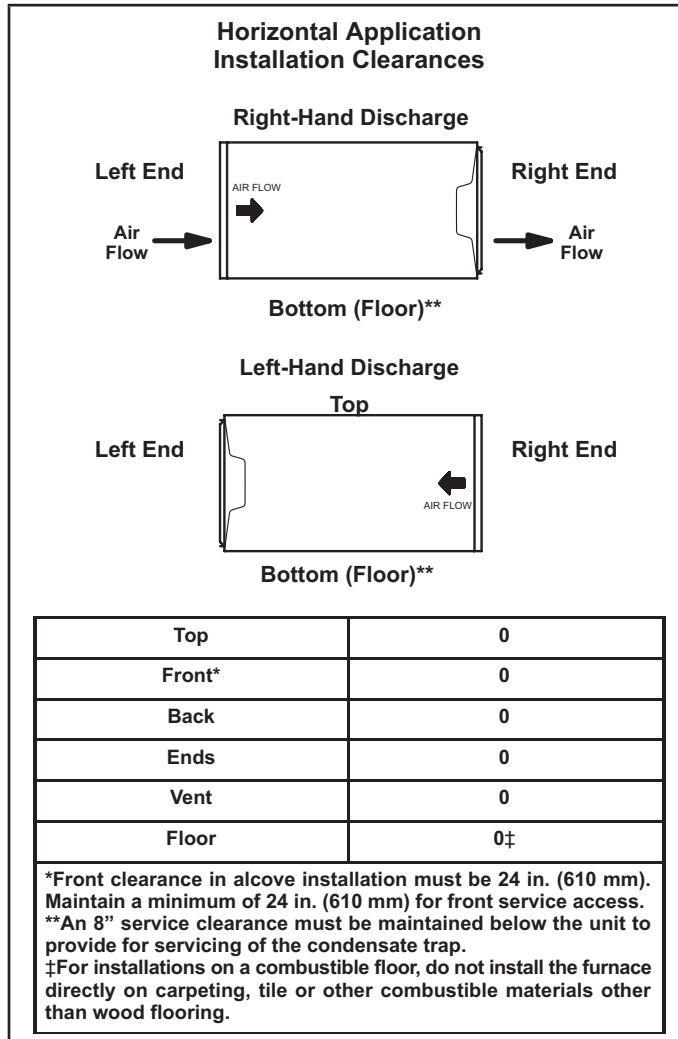

Figure 17
The EL297UHV furnace can be installed in horizontal applications with either right- or left-hand air discharge. Refer to Figure 17 for clearances in horizontal applications.
- 1 - Select location for unit keeping in mind service and other necessary clearances. See Figure 17.